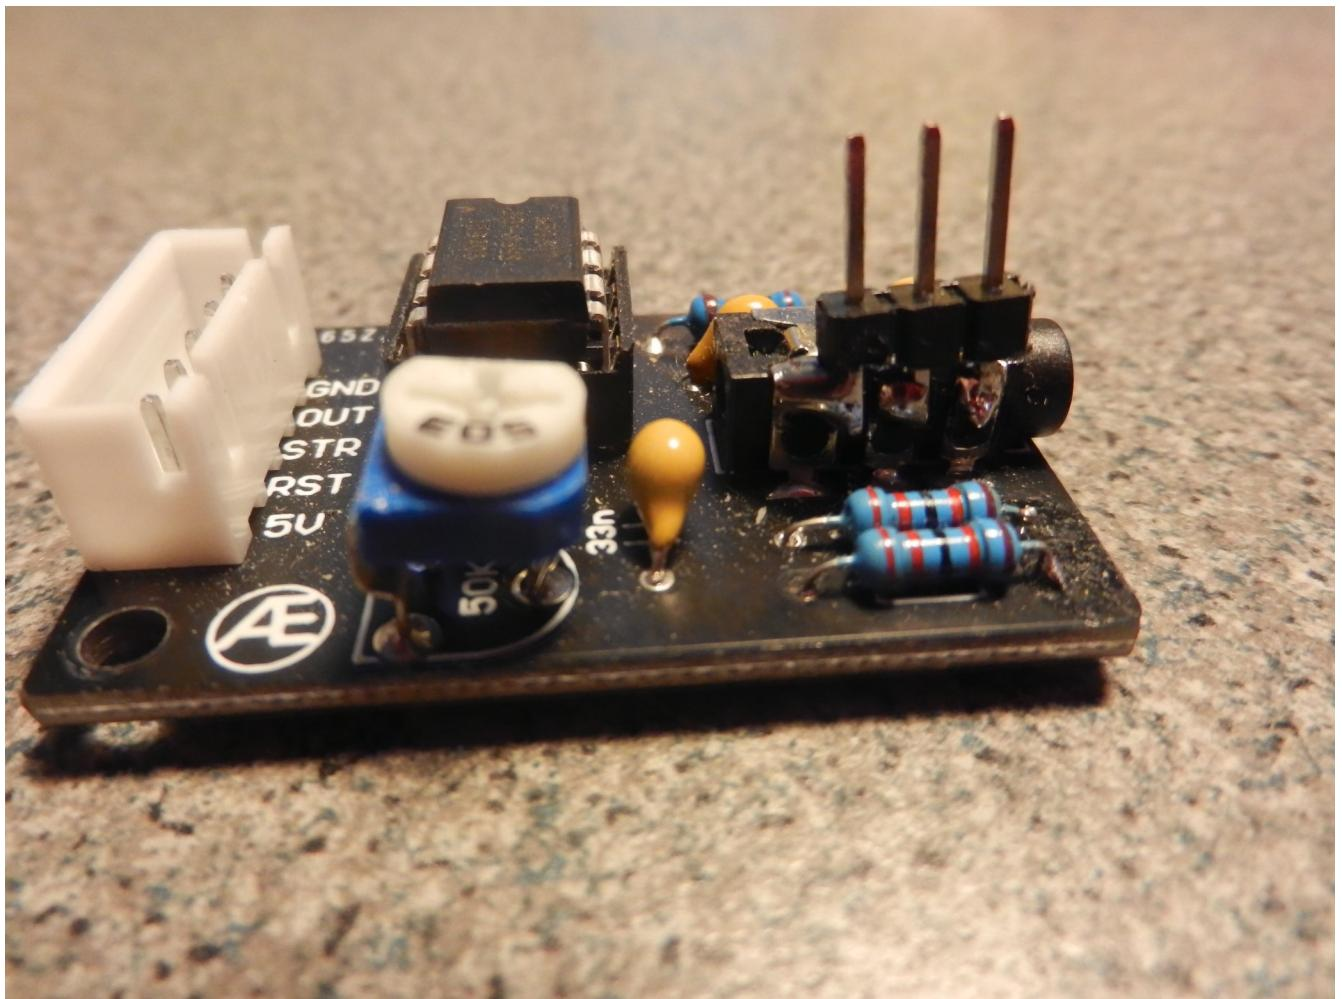

Figure 13, MSGEQ7 board. Note my board has a different style five pin connector on it also notice the three pin header soldered to the phone jack.
4. Solder a five pin male header to the component side of the board. See figure 13.